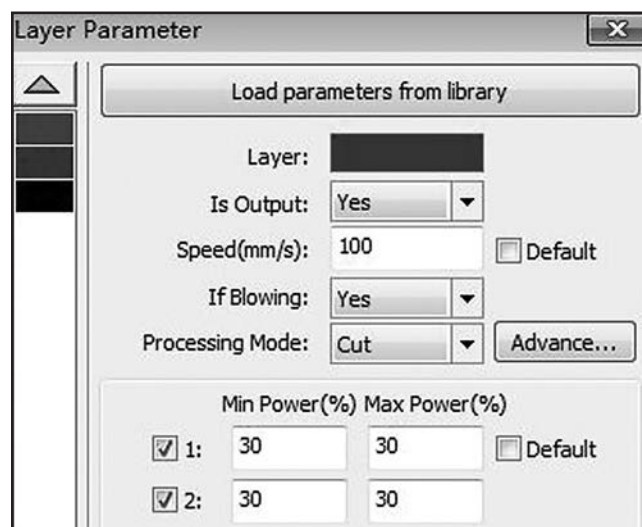

Figure 34. Layer Parameter dialog box.
2. Double-click layer to open "Layer Parameter" dialog box (see **Figure 34**).
3. Set "Is Output" to "Yes" (see **Figure 34**).
4. Set desired cutting/engraving speed in mm/s (see **Figure 34**).